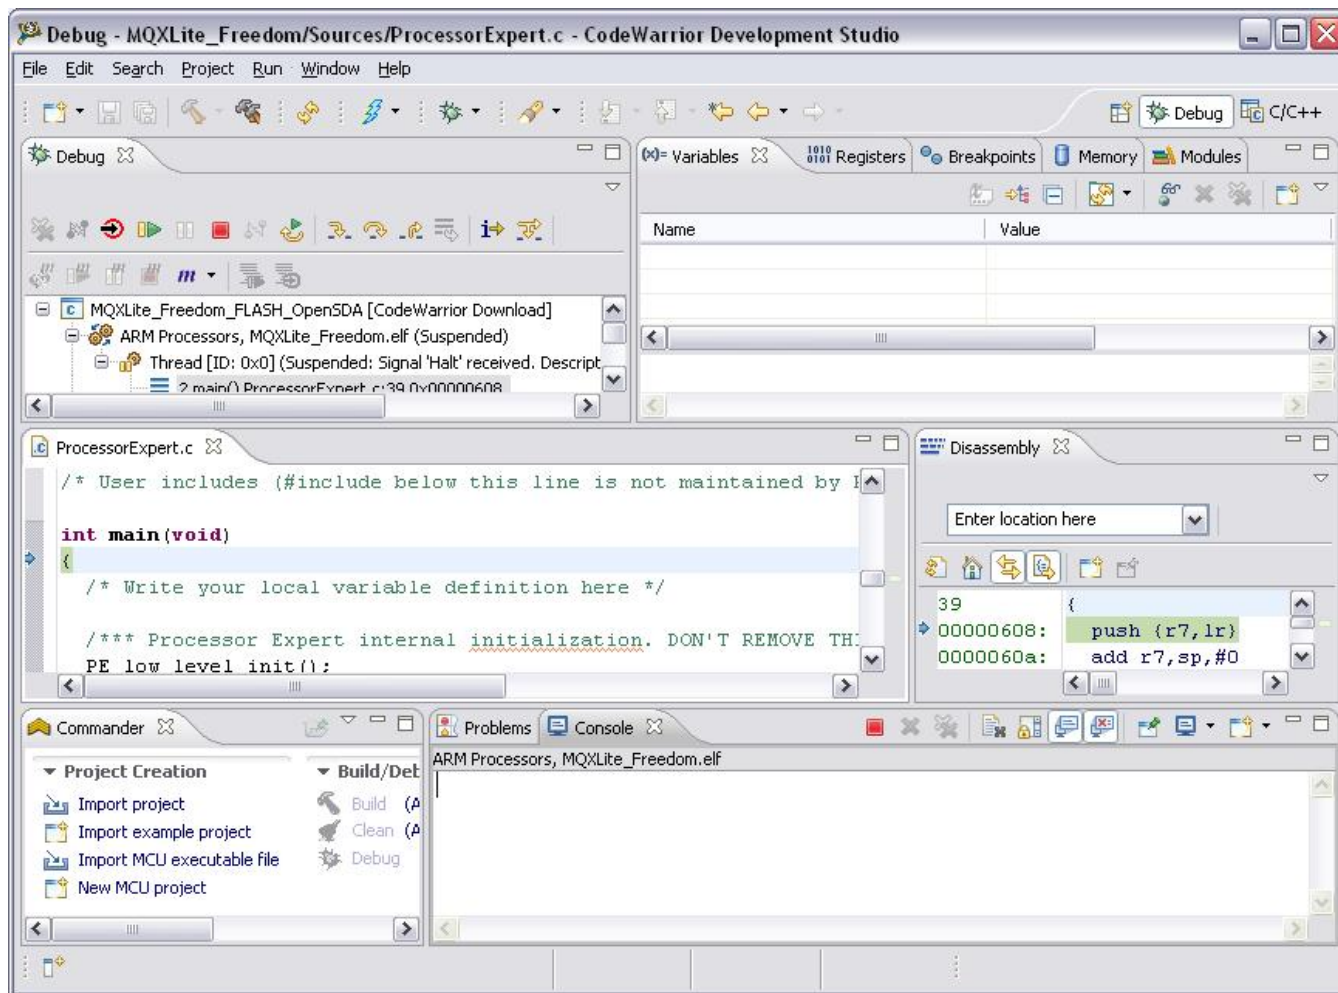

Figure 45. CodeWarrior debugging perspective view
3. Here the CodeWarrior perspective view changes and after the source code is downloaded to the board it is able to start the debugging. Figure 45 illustrates a debugging session.